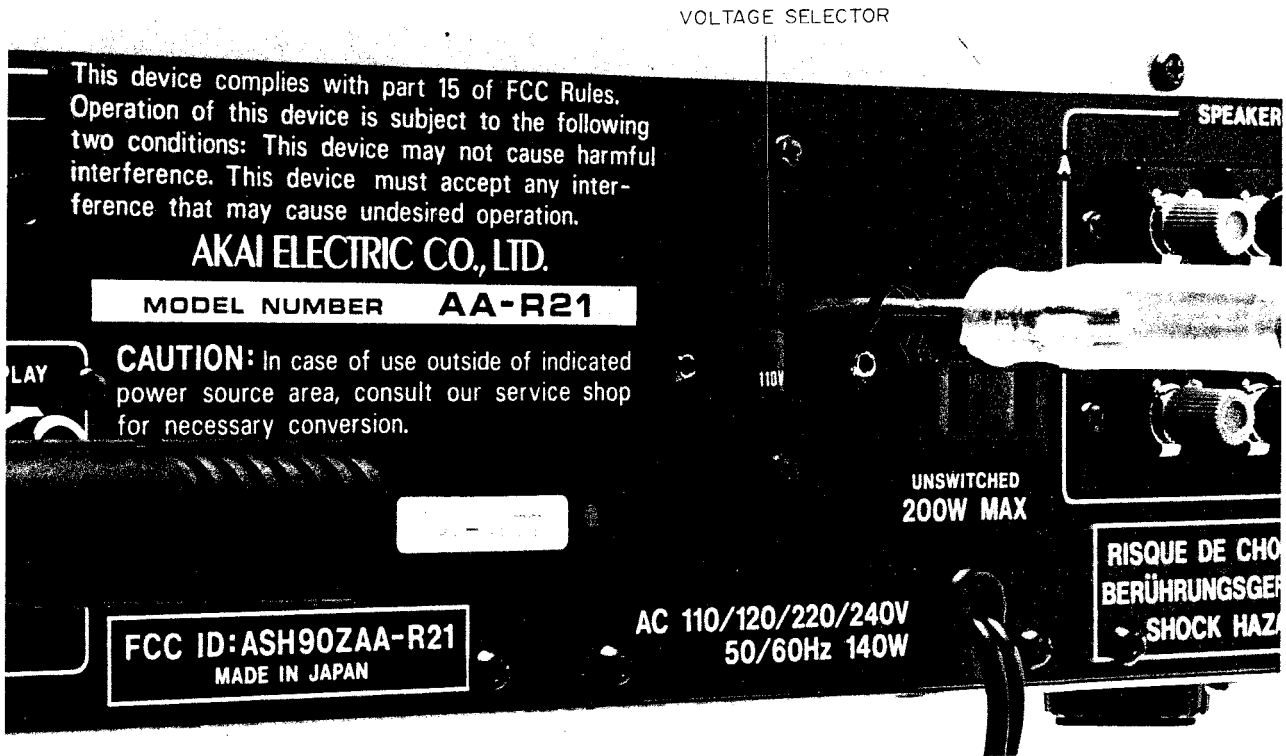

Fig. 6 Voltage Conversion (U/T Model Only)
3. Turn with a screwdriver until the correct voltage for your area is shown. (Refer to Fig. 6)